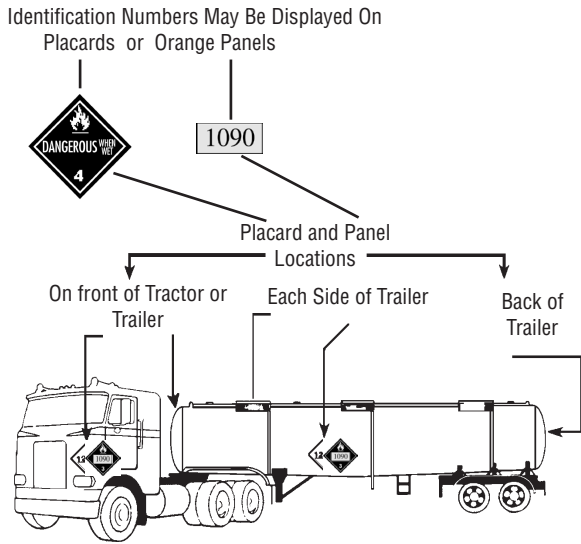

Figure 9-2 Placard and Panel Locations
**Placards** are signs used to warn others of hazardous cargo and are put on the outside of a vehicle to show the hazard class of the cargo. A placarded vehicle must have at least 4 placards representing the applicable hazard. They are attached to each side and each end of the vehicle, as shown in Figure 9-2. Placards must be readable from all four directions. There are 22 DOT specification placards. They are 10 3/4 inches square, turned upright on a point, in a diamond shape. Cargo tanks and other bulk
Placards must be put on each side and each end of the vehicle (refer to Figure 9-2 on page 97). Each placard must be: